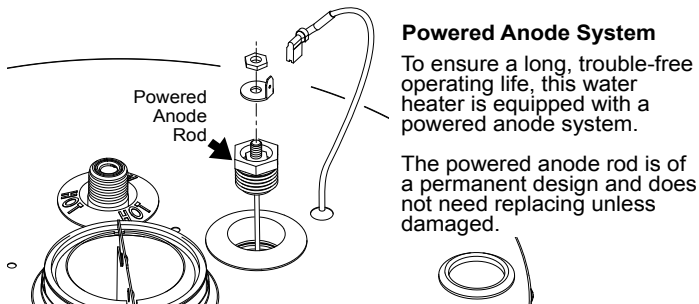

FIGURE 22.
4. Remove the wiring connection on the top of the powered anode rod and remove the old powered anode rod (Figure 22).